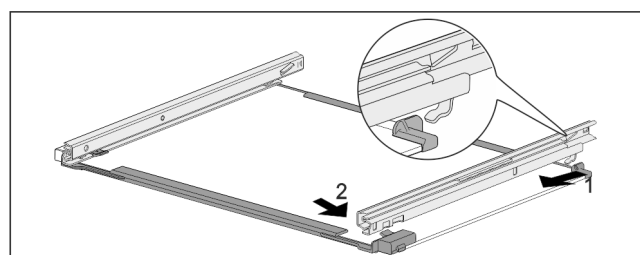

Fig. 106 Glass shelf with rails
- ▶ Hook in rail at the back. Fig. 106 (1)
- ▶ Hook in rail at the front. Fig. 106 (2)